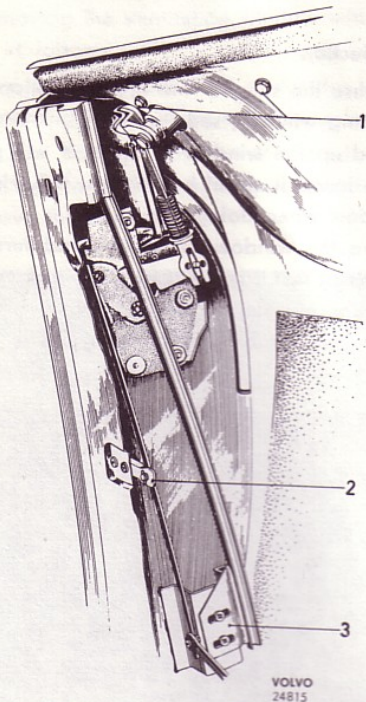

Fig. 26. Door lock and guide strip for winding window.
3. Fit the link arm (5) between the control lever and lock. Adjust the length of the link arm by selecting one of the holes in the lower edge. Adjustment should be done so that the control lever is clear of the stop plate when locked and contacts the middle of the plate when unlocked, see Fig. 26.
6. When fitting, ensure that the window runs easily in the grooves. The rear guide strip of the winding window can be adjusted to vary the contact between the glass and sealing strip, see Fig. 26.
4. When fitting, ensure that the winding window runs easily in the grooves. The rear guide strip of the winding window can be adjusted to vary the contact between the glass and sealing strip (Fig. 26). The guide strip can be removed after the upper, outer trim moulding has been taken off.